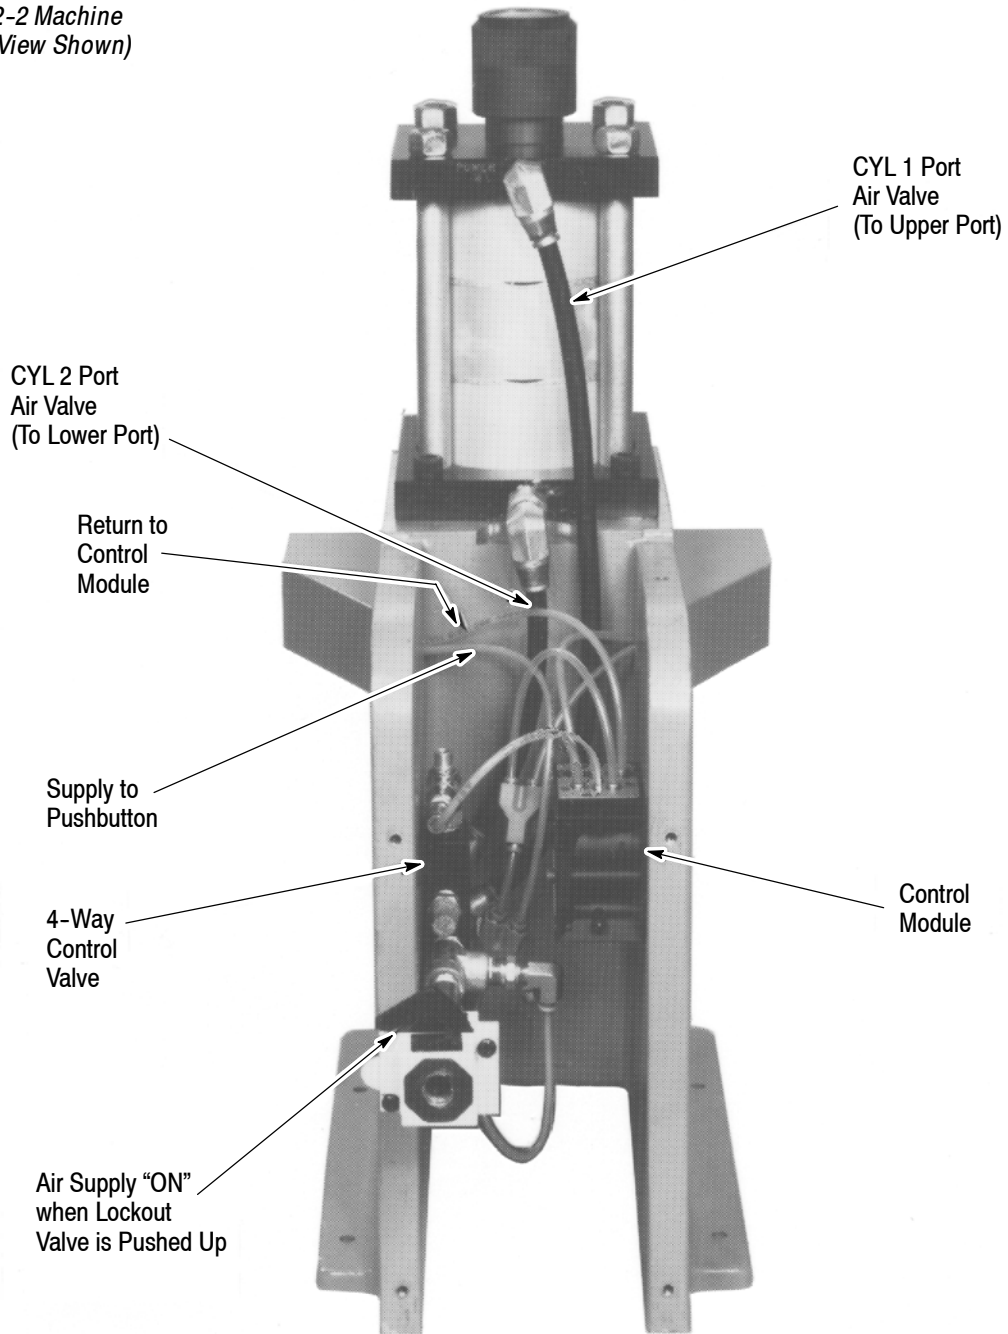

Figure 14
5.2. Troubleshooting 312522-2 Machine (Figure 14)
1. Check air supply to and from the pushbuttons. Refer to Figure 14, and proceed as follows:
- b. Remove the hoses from the “a” and “b” ports of the control module. See Figure 14. With air ON, and **both** pushbutton switches depressed, air should flow from both hoses. If no air flows from either of the hoses, the valve is faulty and must be replaced. See Section 7.4., Pushbutton Replacement for 312522-2 Machine.
2. Check the Flow Control Valve and Control Module (refer to Figure 14); proceed as follows:
3. Check the 4-Way Control Valve (refer to Figure 14); proceed as follows: